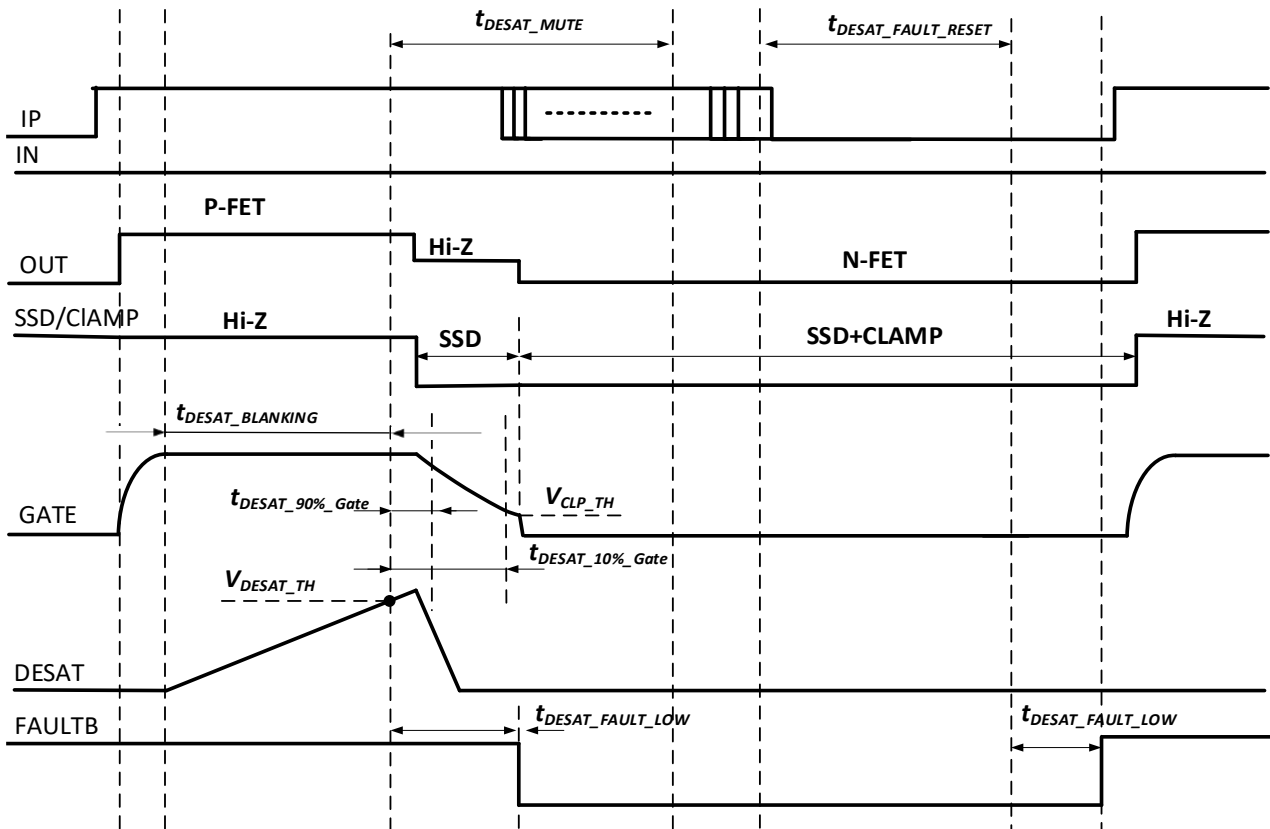

Figure 9 – Driver time diagram during DESAT conditions (the timescale is not proportional)
Test conditions: All typical values at $T_A = 25^\circ\text{C}$; $V_{DDL-GNDL} = 12\text{ V}$; $V_{DDH-VE} = 20\text{ V}$; $V_{NEG-VE} = 0\text{ V}$; $C_L = 100\text{ pF}$; $-40^\circ\text{C} < T_A < 125^\circ\text{C}$ (see Figure 9).
- 1) See Figure 9 for the DESAT parameters